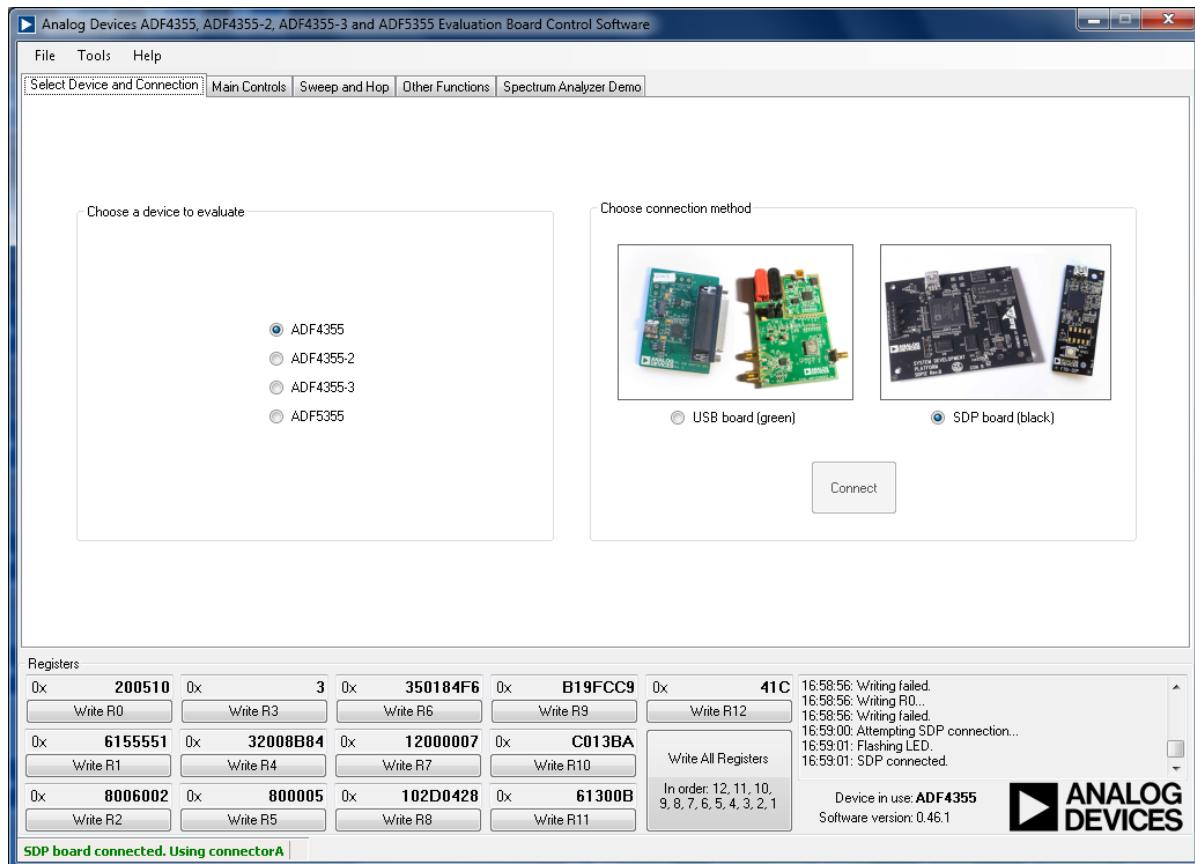

Figure 2. Software Front Panel Display—Select Device and Connection
2. On the **Select Device and Connection** tab, choose **ADF4355 and SDP board (black)**, and then click **Connect** (see Figure 2).
8. Select **ADF4355** and **SDP board (black)** in the **Select Device and Connection** tab of the software front panel display window (see Figure 2).